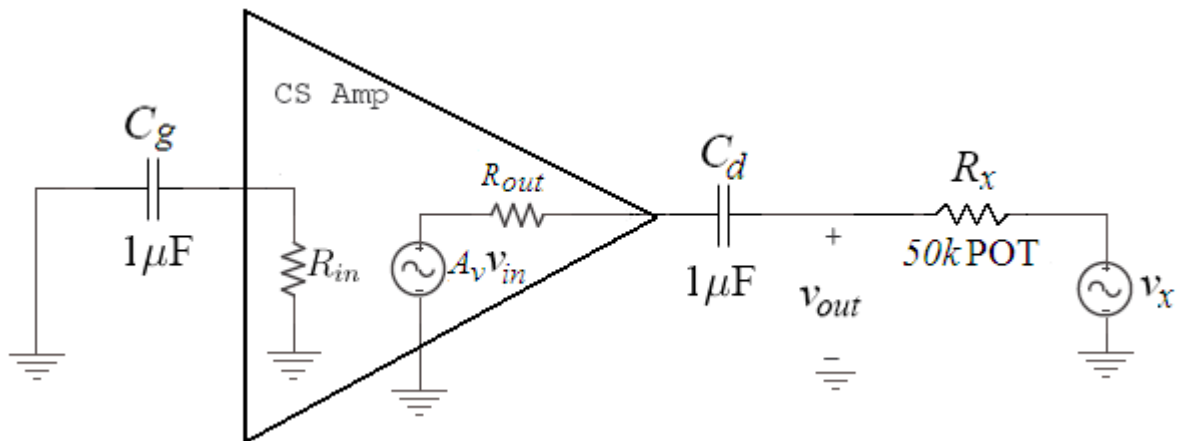

Figure7
5. Measure the output impedance R_{out} . To do this, use the setup shown in the circuit diagram in Fig.7. Use the same input signal from the function generator ($v_x=50\text{mVp-p}$ @ 1kHz). Measure the value of v_{out} . Set up an equation relating v_{out} and v_x . Use that equation to solve for the value of the AC output impedance R_{out} . Make sure that R_L is not connected for this measurement!